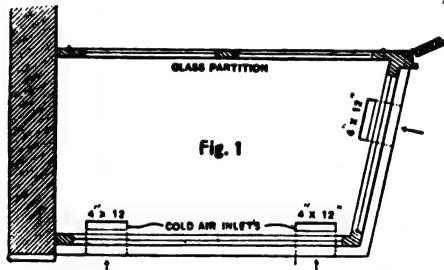

Fig. 1
**Fig. 1, plan view.**) In a window of ordinary size make three openings 4 or 5 by 12 in. Case these up tightly with galvanized iron or wood. A good way, says a correspondent of the Metal Worker, is to put in galvanized iron, then on top of the floor on the inside over the whole tack a piece of  $\frac{1}{4}$ -in. mesh wire screen, using small staples to